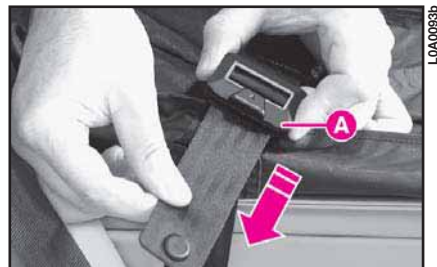

fig. 209
2) Hold the belt tight by pulling its end, while holding buckle A (fig. 209).